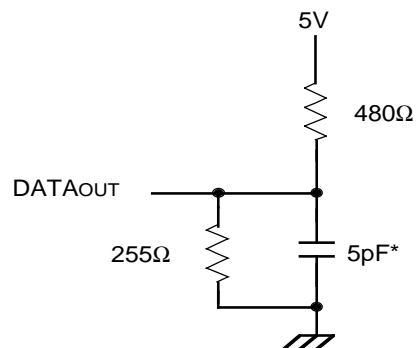

Figure 2. AC Test Load
3. This parameter guaranteed with the AC Load (Figure 2) by device characterization, but is not production tested.
3. This parameter guaranteed with AC Load (Figure 2) by device characterization, but is not production tested.